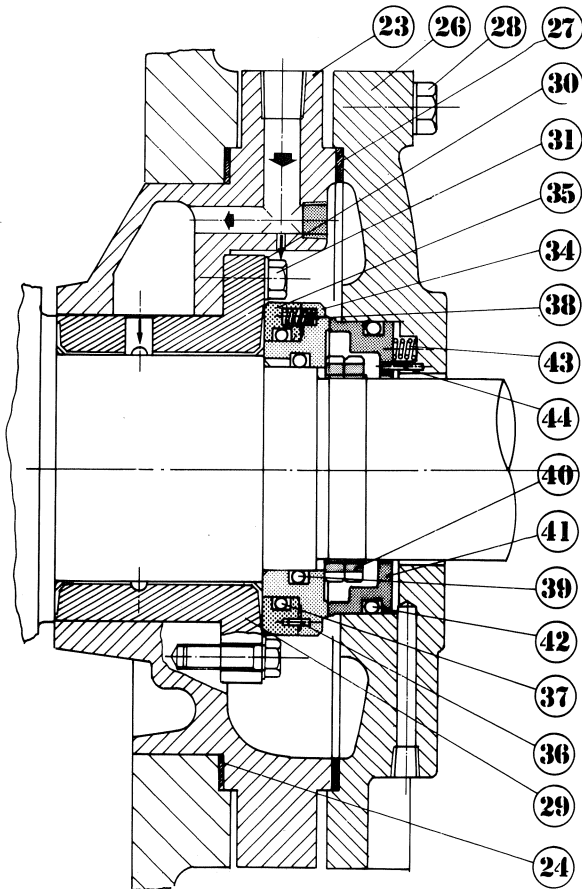

Fig. 24 Sectional view of shaft seal, Type WA
The shaft seal mechanism (Figs. 24 & 25) is a simple and efficient sealing device consisting of a shaft seal collar (33-1), shaft seal ring (41) and "O" rings (37,39 & 42). The shaft seal collar is fixed to the shaft by a locking ball and thus rotates with the crankshaft. The seal ring is locked to the cover plate by a roll pin (44) and alignment of the friction surfaces of these two parts is assured by the installation of a helical spring (43). The seal is pressure-fed with oil from the pump and is sealed by "O" rings and a lapped friction surface. Leakage of refrigerant and oil is completely eliminated.